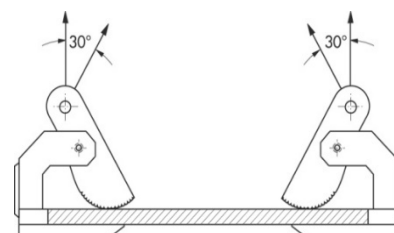
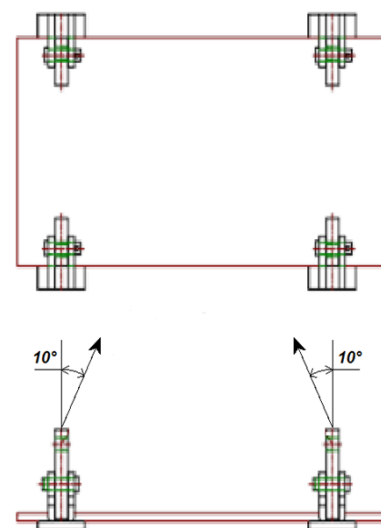

Figure 2
Figure 3
The plate is clamped between the segment and the base by the lever mechanism when tension is applied to the segment (see Figure 2).
Ensure, that the Working Load Limit (WLL) of each clamp is not exceeded and the load direction does not exceed 30° (see Figure 2), The side ways load direction may not exceed 10° (see Figure 3).
- 6) The plate can then be transported horizontally (see figure 2). Observe the points overleaf.
- When the load direction angle (see Figure 2) exceeds 30°, the clamps and slings must be derated according Table 4:
- Always use the required number of clamps for the required balance, ensuring that the side load angle does not exceed 10° (see Figure 3).